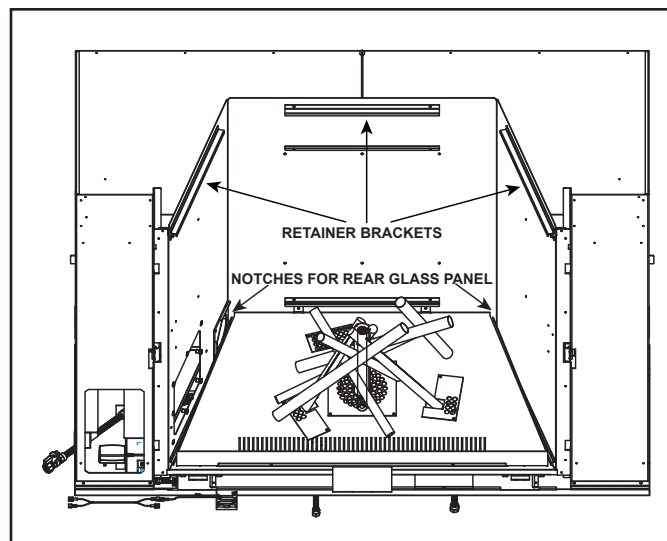

Figure 11.10 Remove Retainer Brackets
1. Remove rear and side glass retainer brackets as shown in Figure 11.10. Retain fasteners for use in Steps 3-5.